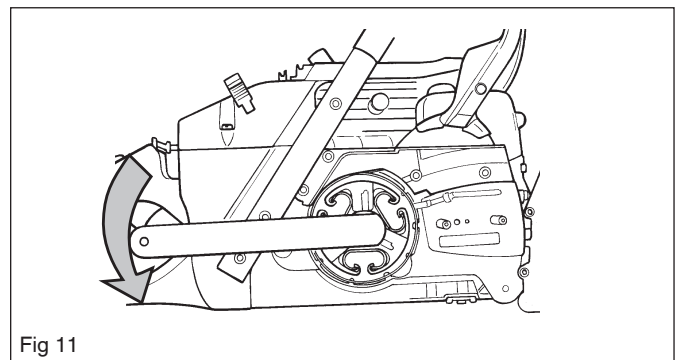

Fig 11
10. Fit the clutch hub on the crankshaft and tighten with the clutch tool. Note – left-hand thread! See fig. 11.